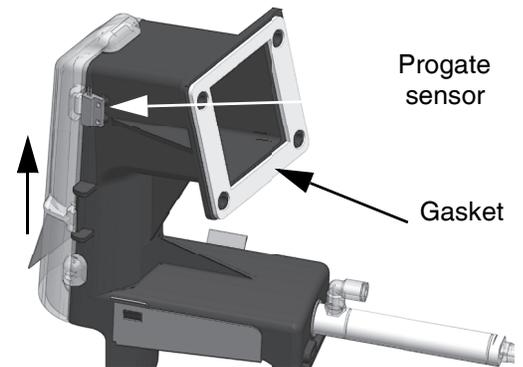

Figure 50.
7. Disconnect the progate sensor and pull the ice chute cover upward as shown in Figure 50.